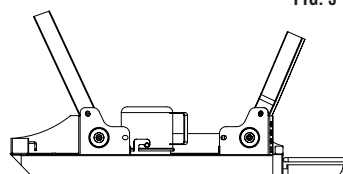

FIG. 5
3. Make sure buttons are fully engaged as shown in Fig. 5.